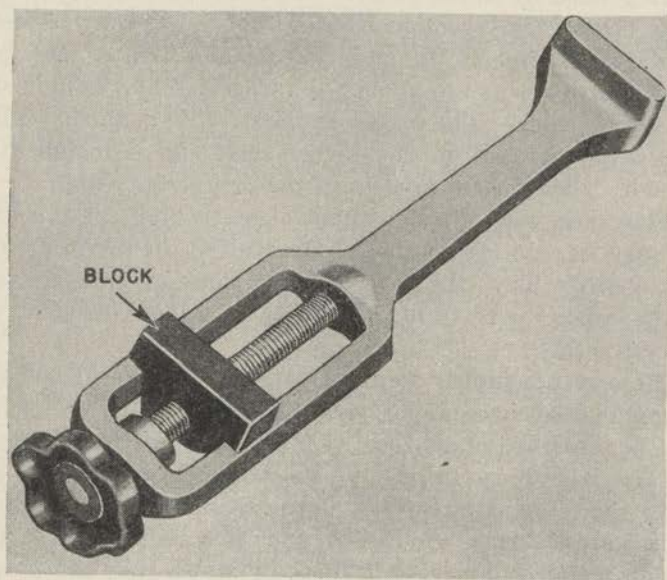

FIGURE 130.—Windshield tool.
(2) For removing and replacing the channels of completely framed lights, use the windshield tool, a spreader-and-clamp device (fig. 130). Turning the knob moves the block in or out, spreading or squeezing two opposite edges of a frame.